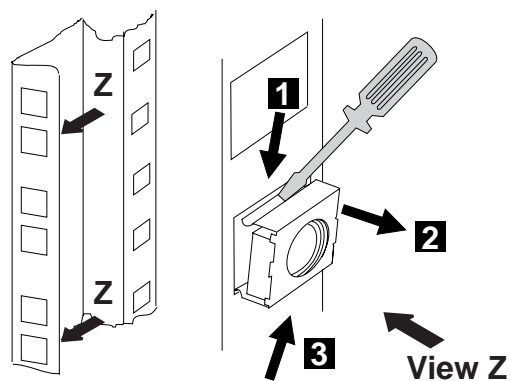

Figure 14. Captive Nuts Removal
1. Remove all the captive nuts used previously to secure all the parts removed (see Figure 14).